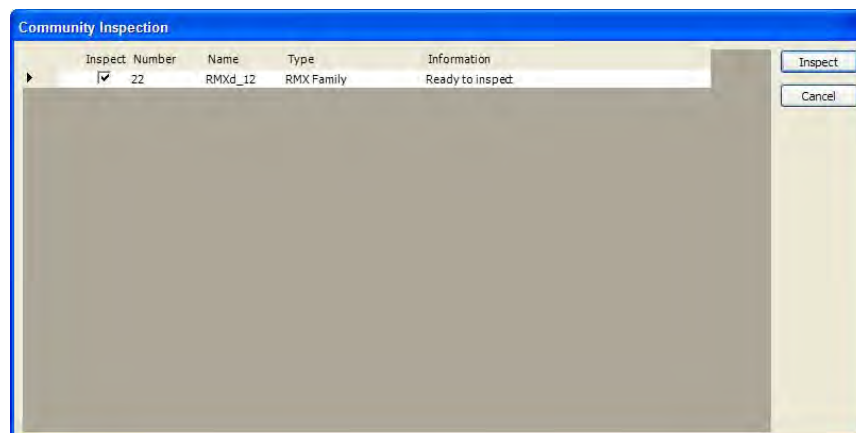

Figure 4-10. Community Inspection Window
2. On the VMCC menu bar, click **Community | Inspect Community**. The **Community Inspection** window appears (Figure 4-10) to show all the VistaMax devices detected—which in this case should be only the new RMXd console.